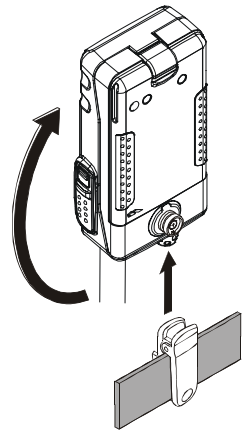

Figure 4
- ❑ To remove the **VX-177** from the Quick-Draw Belt Clip, rotate the **VX-177** 180 degrees, then slide the **VX-177** out from the Quick-Draw Belt Clip (Figure 4).